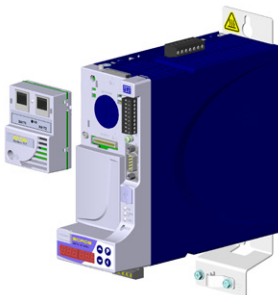

Figure 4.2: Accessory installation
3. Connect the accessory to the appropriate slot, as illustrated Figure 4.2 on page 8. Remember that the accessories ECO5, ECO6 and ECO7 can only be connected to slot 2.